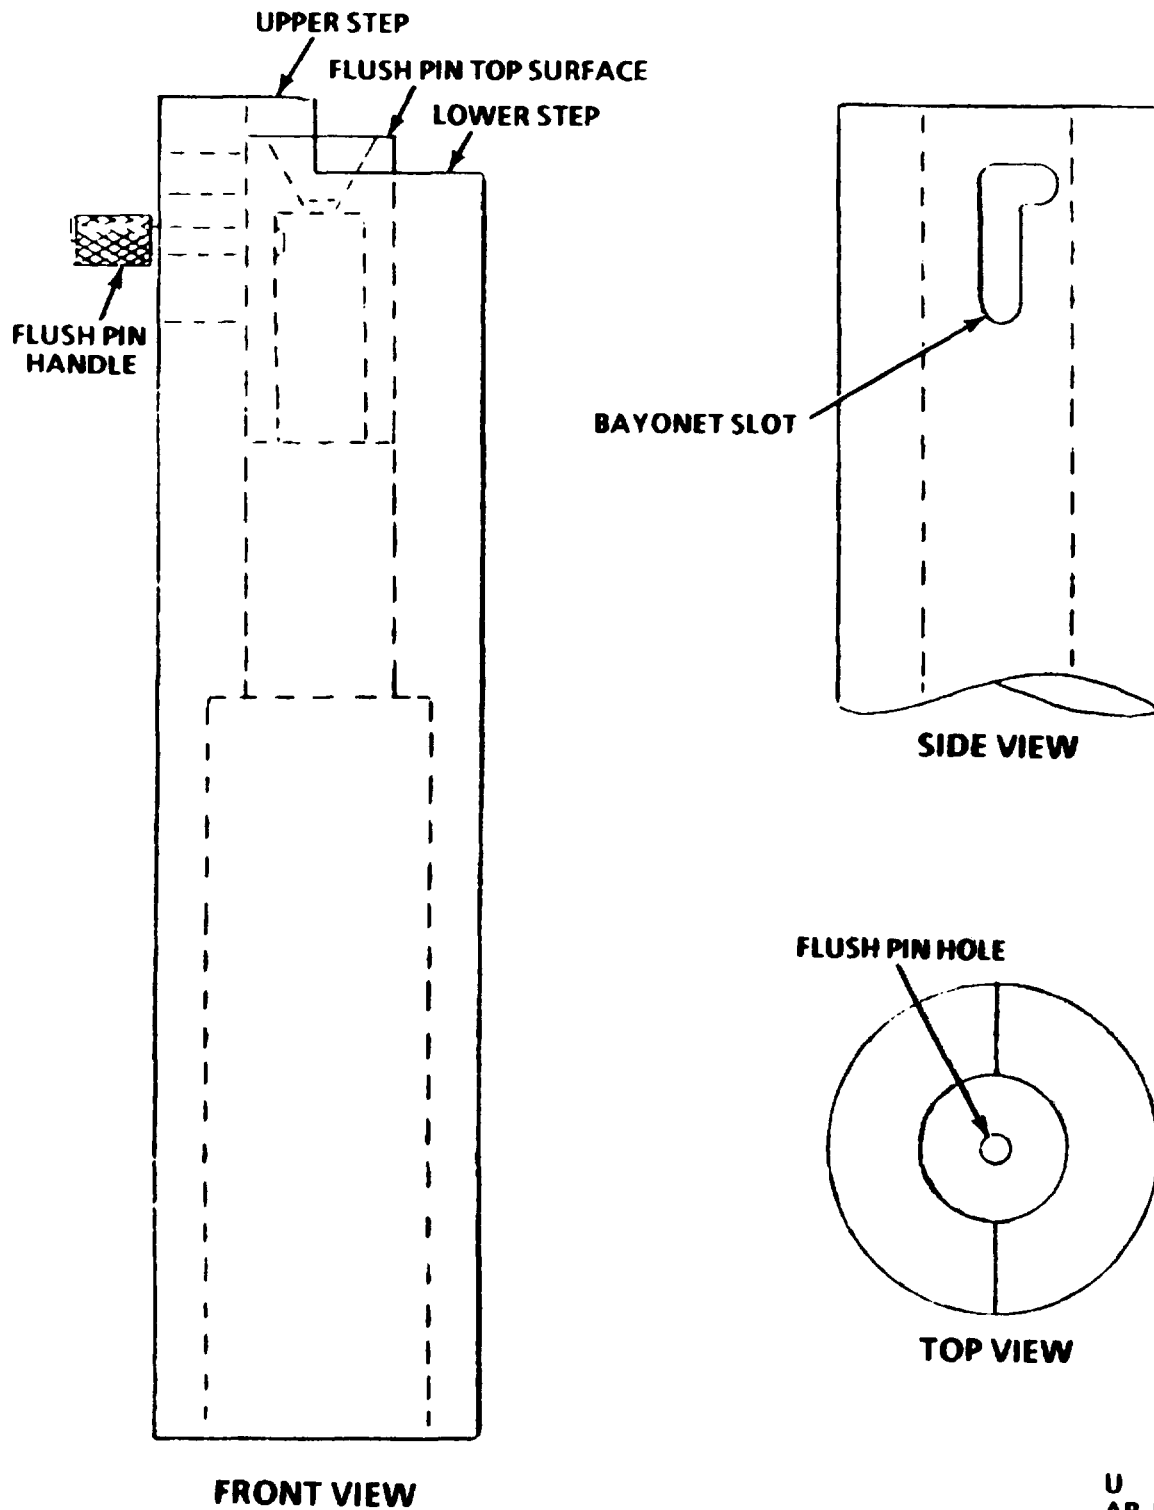

Figure 4-7. Cartridge M829 tip acceptance gage, flush pin type.
- (4) Using a rag dampened with acetone, thoroughly clean windshield tip and tip area of subprojectile.
- (5) Set flush pin handle in upper position of bayonet slot (fig. 4-7).
- (6) Slide Tip Acceptance Gage housing over windshield and windshield tip.
- (7) Release the flush pin handle, let flush pin drop to assure that the tip goes through the flush pin-hole (small diameter, 0.157 inch).